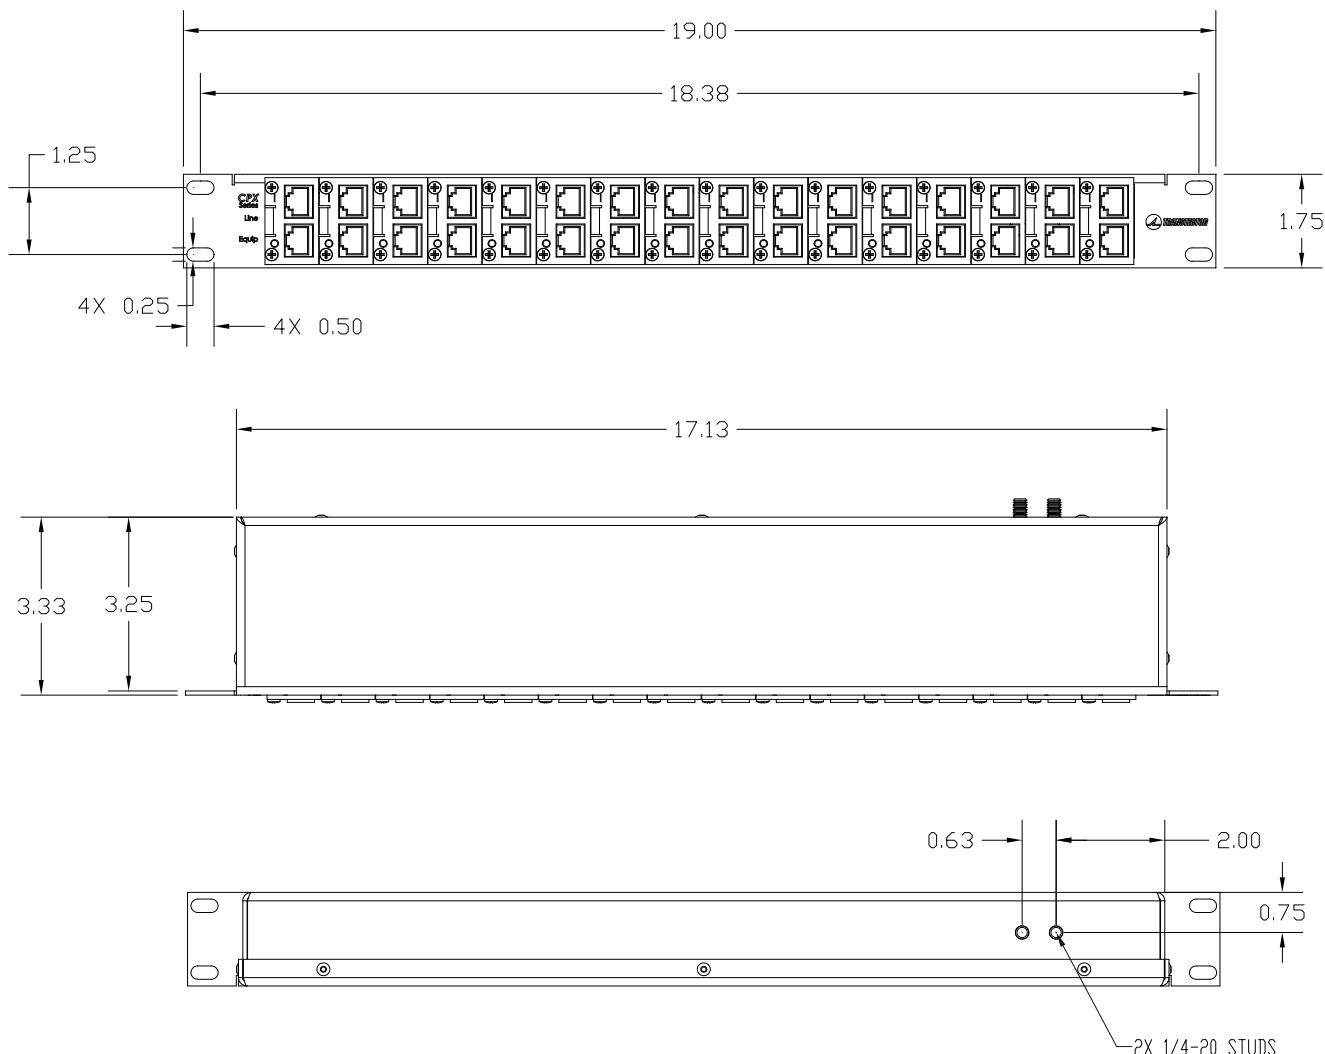
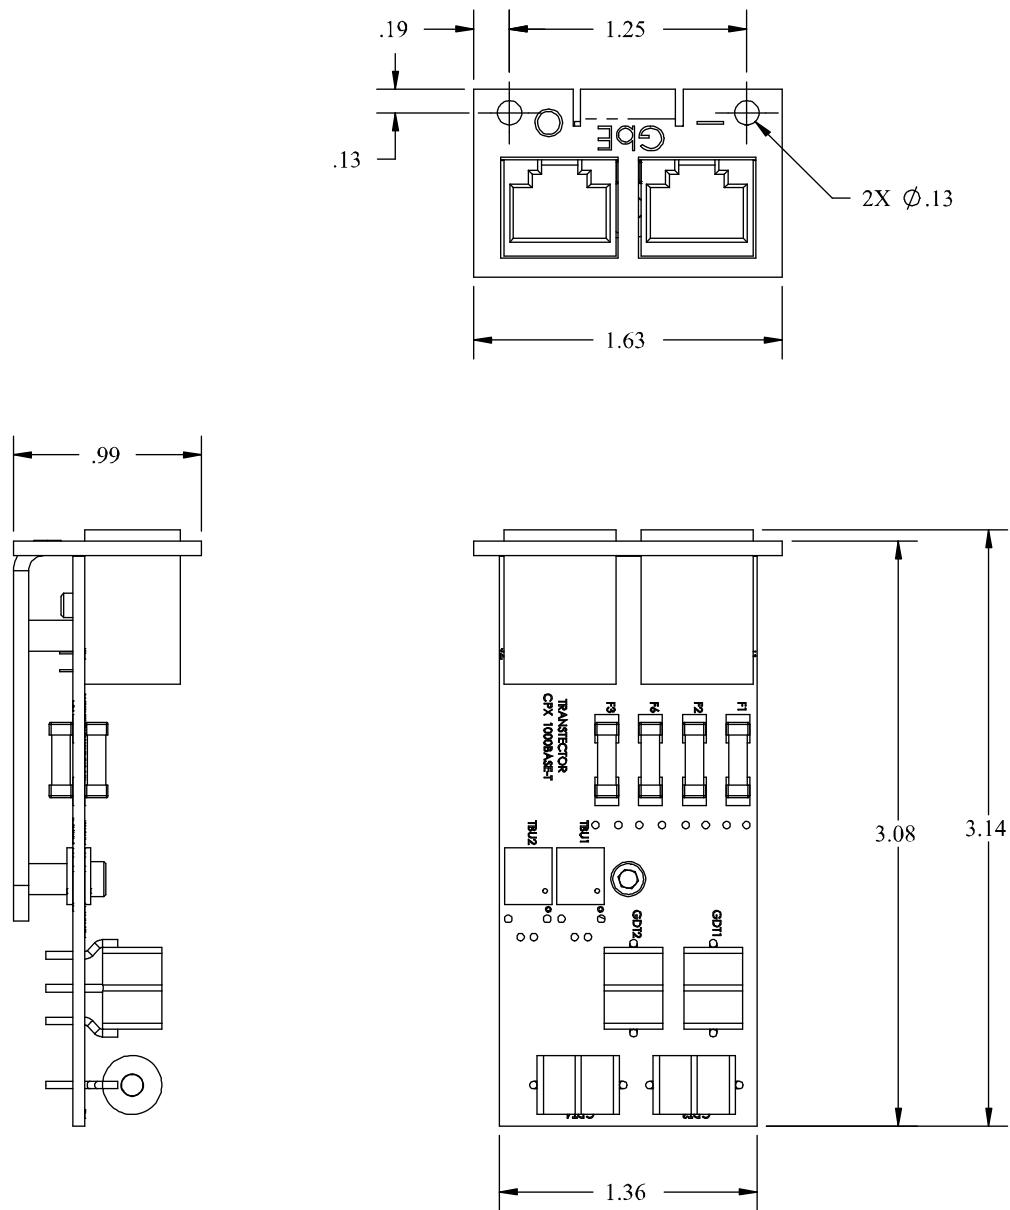

Figure 1: CPX Series Mechanical Outline Drawing
Figure 2: CPX Protection Module Mechanical Outline Drawing
- 6. INSTALLATION:** The CPX SERIES is intended to be installed per article 800 of the NEC indoors, using one rack space within a 19" RS-310-C standard rack. Attach the CPX SERIES into the 19" rack using the four each 10-32 screws at each corner of the chassis front face (hardware provided). A mechanical outline drawing is shown in Figure 1. **Warning!!** The dedicated dual ground studs on the rear of the unit must be connected to the nearest master ground bar for proper operation. Refer to Transtector installation instruction document 1200-201 for installation, wiring & replacement of the individual protection modules; an outline drawing for the modules is given in Figure 2.